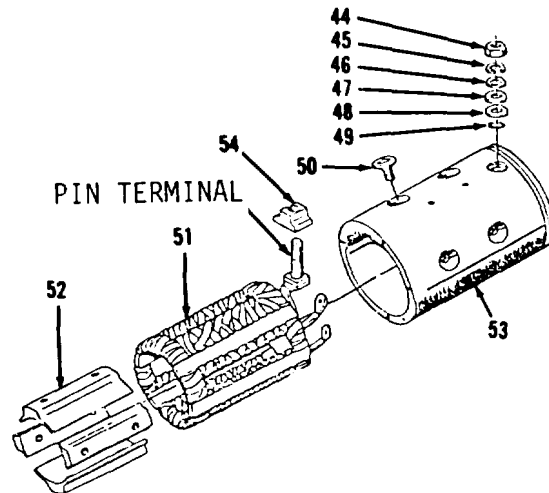

Figure 4-80.
33. Remove nut (44), lockwasher (45), washers (46 and 47), insulator (48) and seal (49) from field coil (51, Figure 4-80) pin terminal. Discard seal (49).